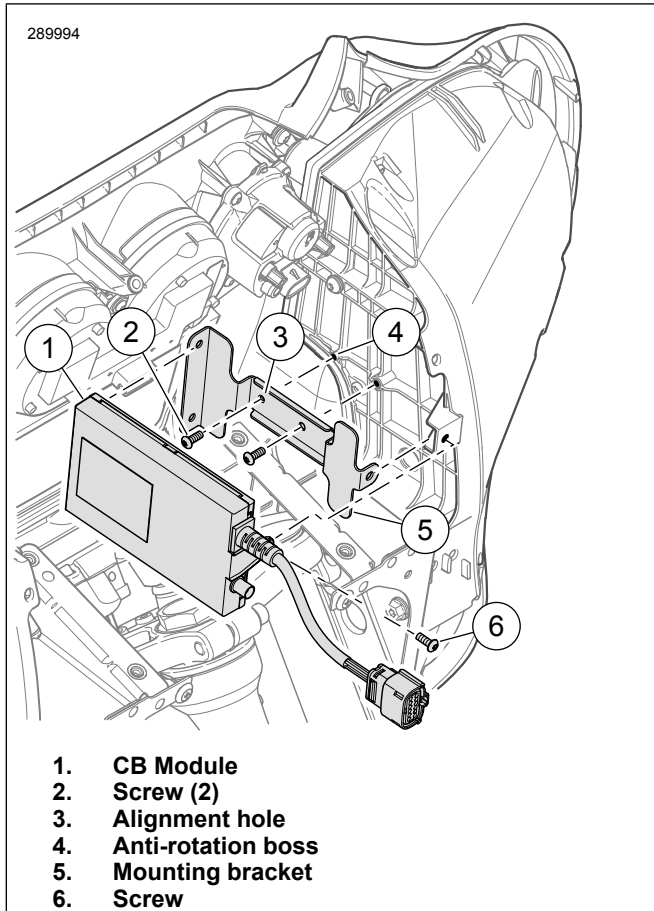

Figure 2. Install CB Module: Fork-Mounted Fairing
1. See Figure 2. Align hole (3) in mounting bracket (5) with anti-rotation boss (4).
2. Install screws (2). Tighten.